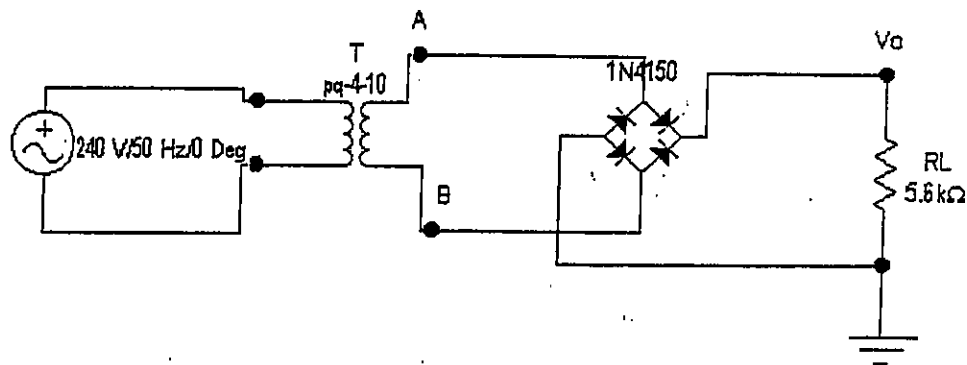

Fig 3.2
- 1- Setup the circuit of Figure 3.2 using (Electronics Workbench Software).